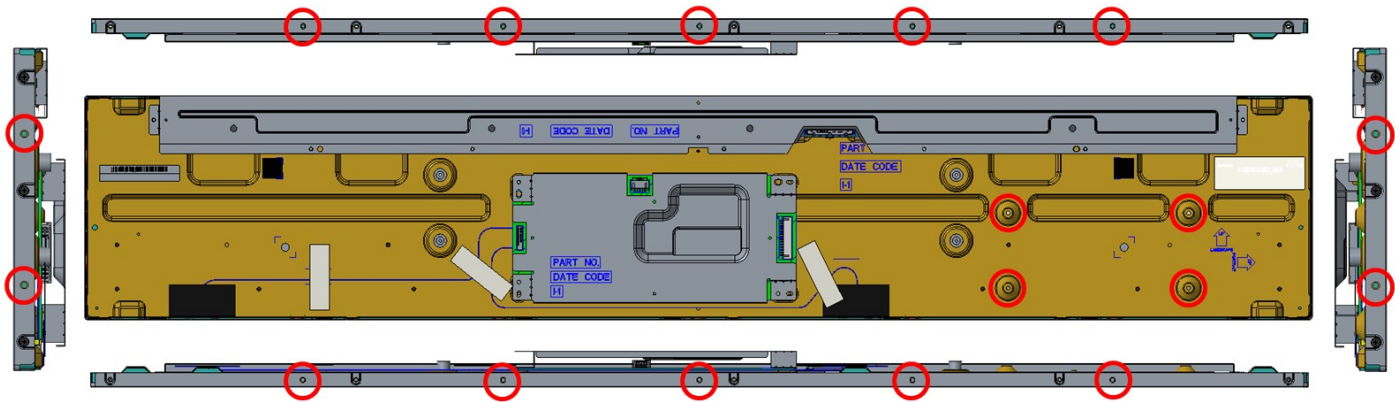

Figure 7.4
- [1] INX module dust test is conducted with marked holes (see Figure 7.4, marked with red circle) sealed to comply with JIS D 0207.